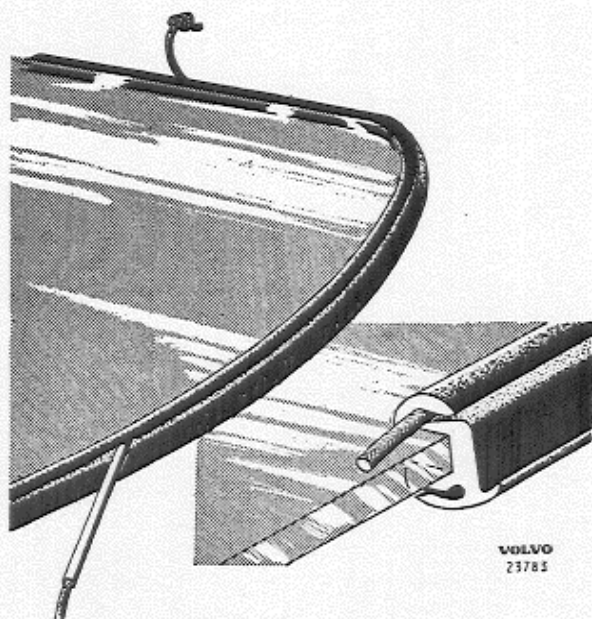

Fig. 44. Laying in the cord
3. Press in a leather strap or strong cord in the groove in the strip as shown in Fig. 44. Laying of the cord is made easier if a narrow pipe is used to open the groove in the strip and the cord is allowed to run through the pipe at the same time, see Fig. 44.